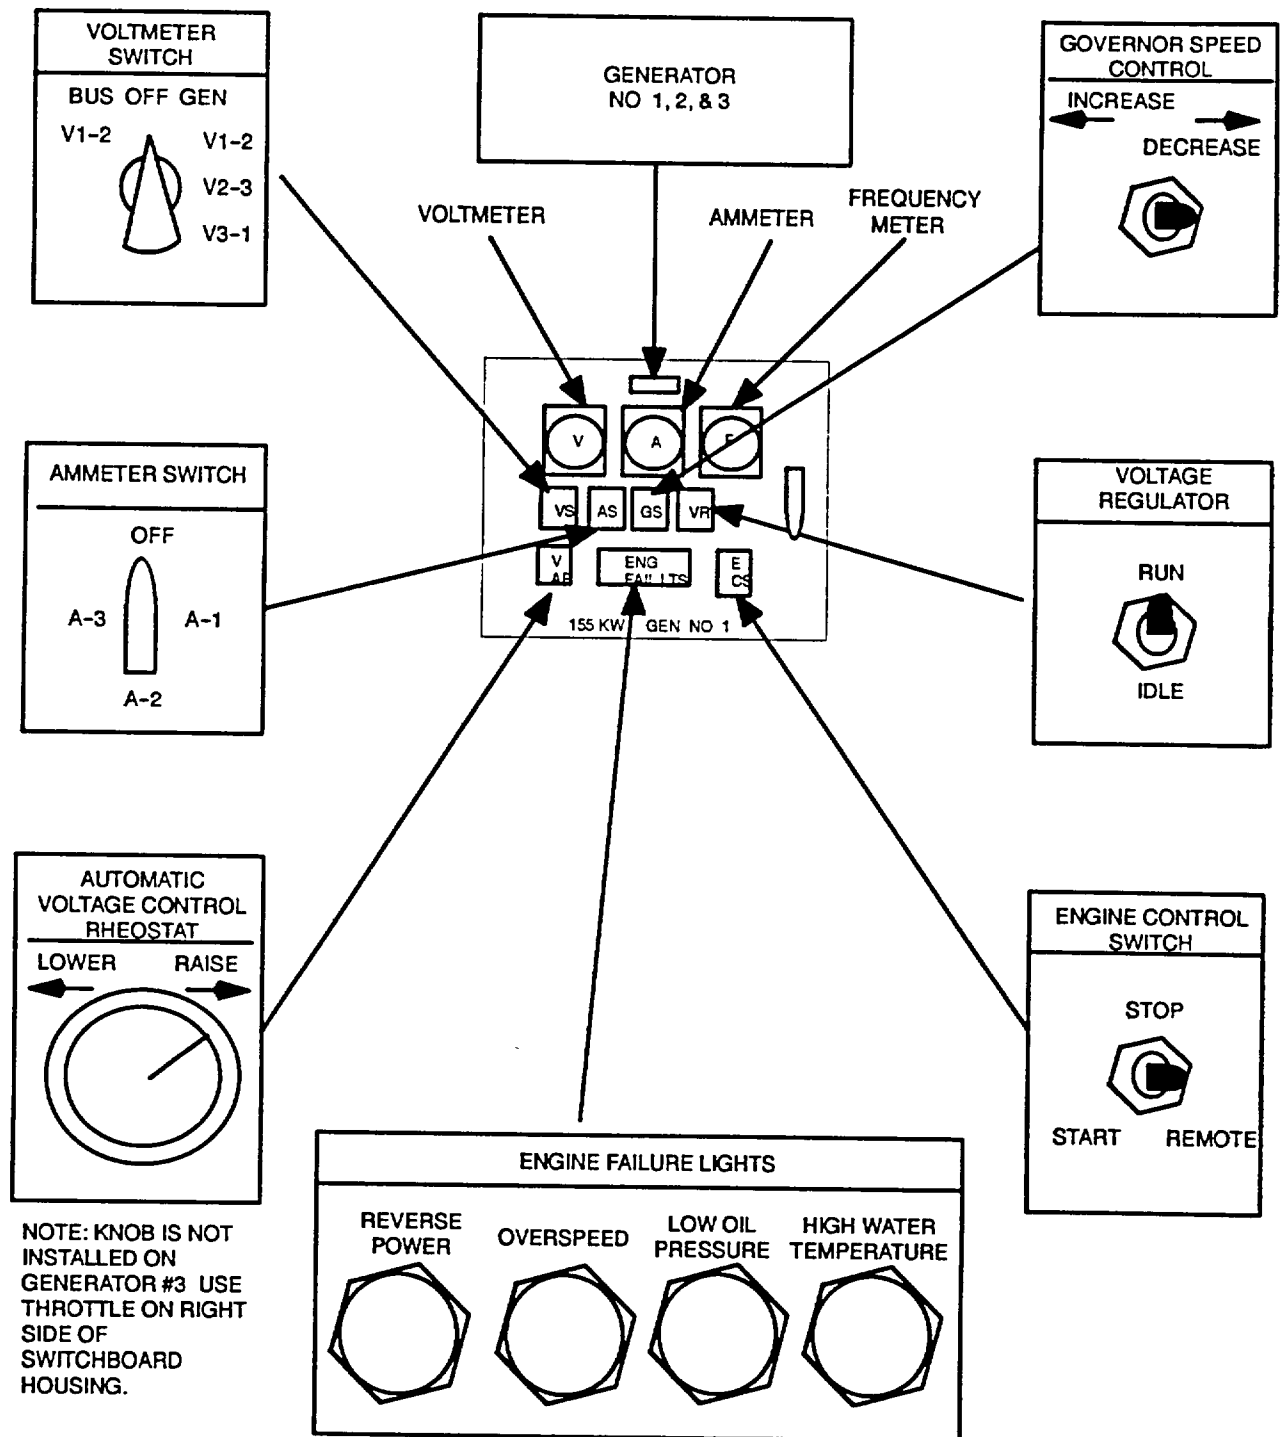
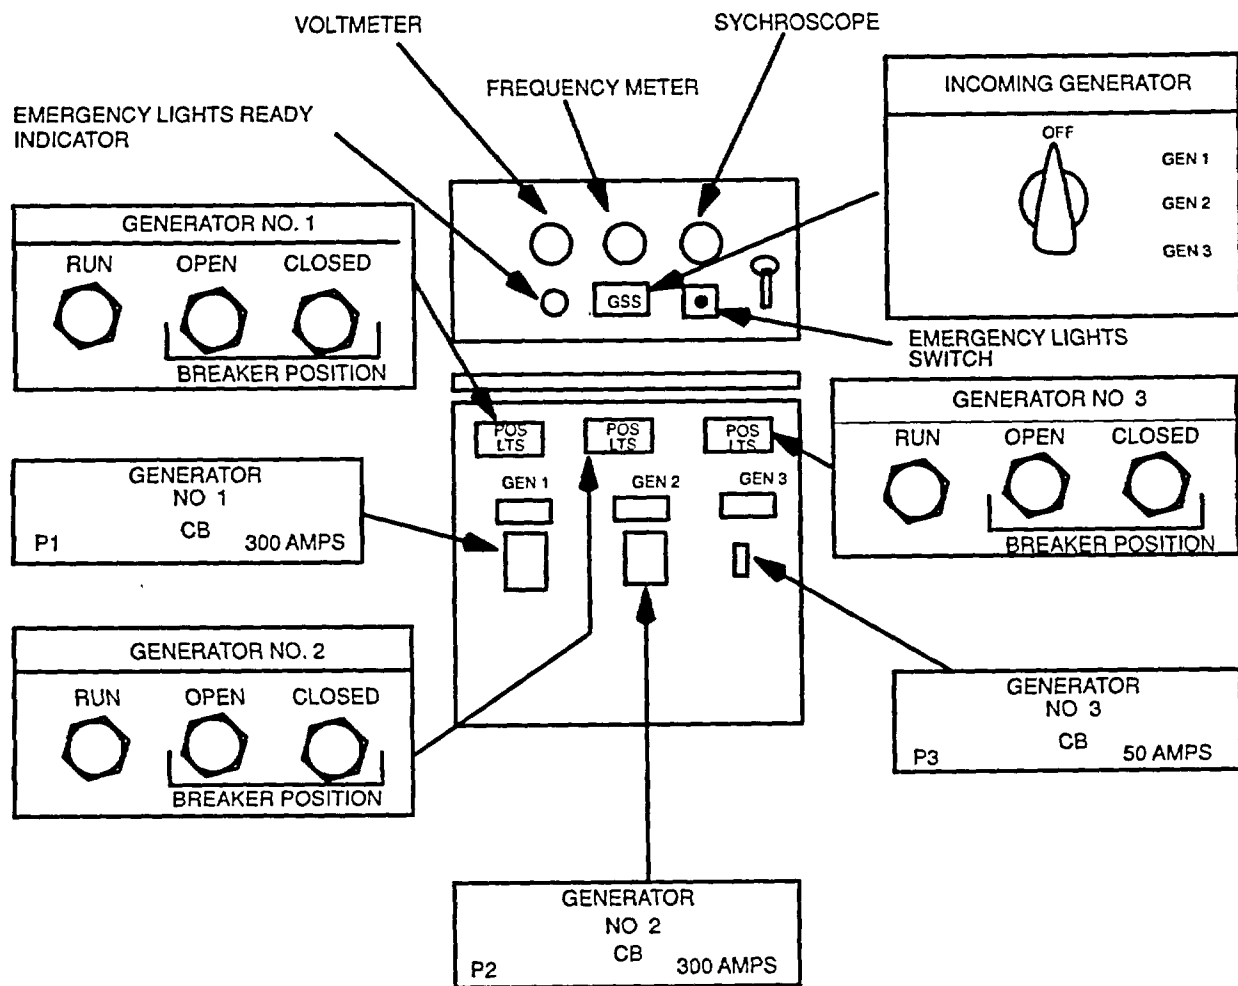

Figure 3-11. Typical Switchboard Generator Control Panel
Figure 3-14. Paralleling and Control Panel
3-7.1.2 Generator control panels. Three panels (Figure 3-11) across top of switchboard (SSG 1 on left, SSG 2 in center, and SAG on right, as you face the panel) control generator sets from the switchboard.
3-7.1.4 Paralleling and control panels. These panels (Figure 3-14) are located in center of switchboard below SSG 2 control panel. They include the following controls and indicators:
- b. Check that circuit breaker for starting generator (Figure 3-14) (P1, P2 or P3) is (OFF).
- d. Check that INCOMING GENERATOR selector switch (Figure 3-14) is (OFF).
- e. Check that generator VOLTAGE REGULATOR switch is on IDLE (Figure 3-11).
- f. Check that ENGINE CONTROL SWITCH is STOP (Figure 3-11).
3-7.3.1 Alarm systems. Three alarm switches are set at levels of coolant temperature, oil pressure, and rpm less critical than the emergency shutoff controls described in paragraph 3-7.3.2. When alarm conditions exist, three red lights in a row of four ENGINE FAILURE lights (Figure 3-11) on affected generator set switchboard panel light up. When EMS is on (TM 55-1930-209-14&P-11), these critical conditions are also made known to the crew by a blinking display on the EMS video monitor on the forward ROWPU bulkhead, by a strobe light and horn in the ROWPU space, a horn on the deckhouse top, and a buzzer in the dayroom. Alarms warn operators that an unsafe condition is developing and corrective action must be taken immediately. If action is not taken, an emergency shutoff solenoid will shut down the SSG. Alarms continue until turned off or until the unsafe condition is corrected. When the unsafe condition is corrected, switches automatically reset. The fourth alarm condition, reverse power, is discussed in paragraph 3-7.5
- a. Turn ENGINE CONTROL SWITCH (Figure 3-11) to START. Engine will crank and run.
- (1) ENGINE FAILURE LIGHTS do not light (Figure 3-11).
- d. Turn VOLTAGE REGULATOR switch to RUN (Figure 3-11).
- (1) On SSG 1 or SSG2, use GOVERNOR SPEED CONTROL toggle switch (Figure 3-11). Move it left to increase frequency and right to decrease frequency.
- (2) On SAG, GOVERNOR SPEED CONTROL toggle switch is not connected (Figure 3-11). Set SAG generator frequency by adjusting throttle on right side of switchboard. Turn throttle knob clockwise to increase frequency and counterclockwise to decrease frequency.
- i. Check ENGINE FAILURE LIGHTS (Figure 3-11) by pressing-to-test. Lights should light when pushed in. If not, make note of bulbs to be changed when that generator is offline.
- j. When the values in steps g and h are stable, close appropriate switchboard circuit breaker (Figure 3-14) to provide generator output to switchboard bus:
- k. Make sure switchboard GENERATOR status lights (Figure 3-14) for operating generator indicate it is running and its circuit breaker is dosed.
- b. Using AUTOMATIC VOLTAGE CONTROL RHEOSTAT (Figure 3-11), adjust voltage on new generator to a value slightly higher than online generator.
- c. Switch INCOMING GENERATOR switch (Figure 3-14) to indicate incoming generator. This action allows SYNCHROSCOPE to indicate frequency of incoming generator.
- d. Using GOVERNOR SPEED CONTROL switch (Figure 3-11), adjust frequency of new generator rotation so SYNCHROSCOPE (Figure 3-14) either stops at the 12 o'clock position or turns very slowly in clockwise direction.
- f. Quickly and forcibly engage new generator circuit breaker (P1, P2, P3) (Figure 3-14) as synchroscope pointer is stopped at 12 o'clock position or as it slowly passes through 11 o'clock position on synchroscope dial.
- g. Turn SYNCHROSCOPE off by turning INCOMING GENERATOR switch to OFF (Figure 3-14).
- h. Transfer load from off going generator to oncoming generator by using AUTOMATIC VOLTAGE CONTROL RHEOSTAT controls (Figure 3-11). Simultaneously increase load on oncoming generator by turning control clockwise and decrease load of off going generator by turning control counterclockwise.
- c. Verify that switchboard circuit breakers for generators (P1 for SSG 1, P2 for SSG 2, and P3 for SAG) (Figure 3-14) are open (OFF).
- b. Open (OFF) appropriate switchboard circuit breaker (Figure 3-14) connecting that generator to switchboard bus: